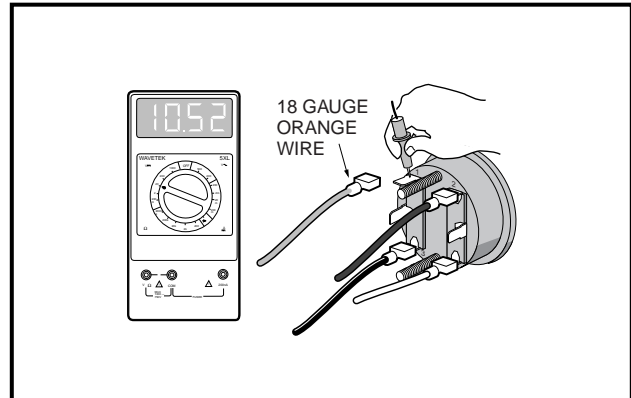

Figure 11-46 Fuel Gauge Voltage Test
- The orange wire should remain disconnected for this step. With the black probe still on the (3) terminal of the fuel/hour gauge, place the red (+) probe of the multimeter on the (1) terminal of the fuel/hour gauge. The voltage reading should be the same as the full battery voltage reading obtained in step 5. If the reading is incorrect, replace fuel/hour gauge (**Figure 11-46, Page 11-41**).